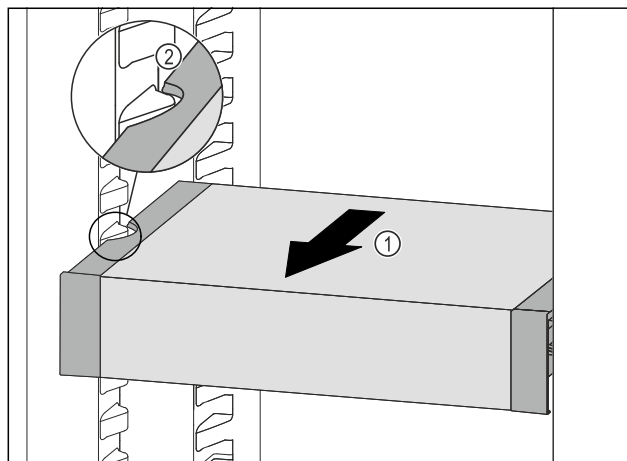

Fig. 130
- Pull VarioSafe forwards Fig. 130 (1) until the recesses in the side of the VarioSafe are at the level of the support rib in the fridge section. Fig. 130 (2)